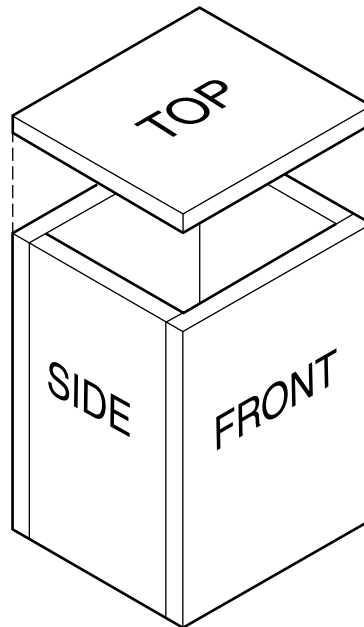

Fig. 6
- (e) Fig. 6 shows how five pieces of foamboard will fit together to make the architectural model.